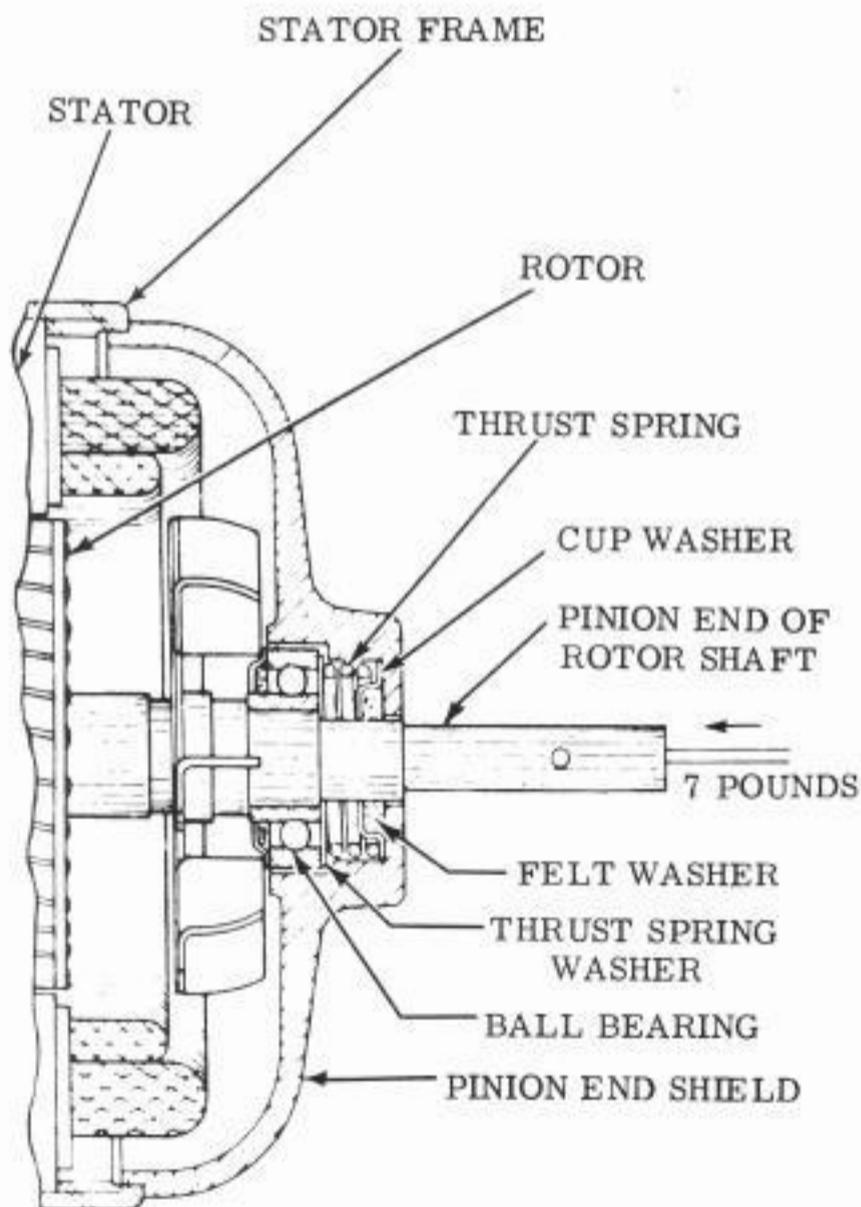

Figure 1 - Rotor Thrust Spring Tension
2.01 Common Requirement - Rotor Thrust-spring Tension: It shall require at least 7 pounds to push the shaft endwise. Upon releasing the tension, the shaft should return to its normal position. (See Figure 1.)